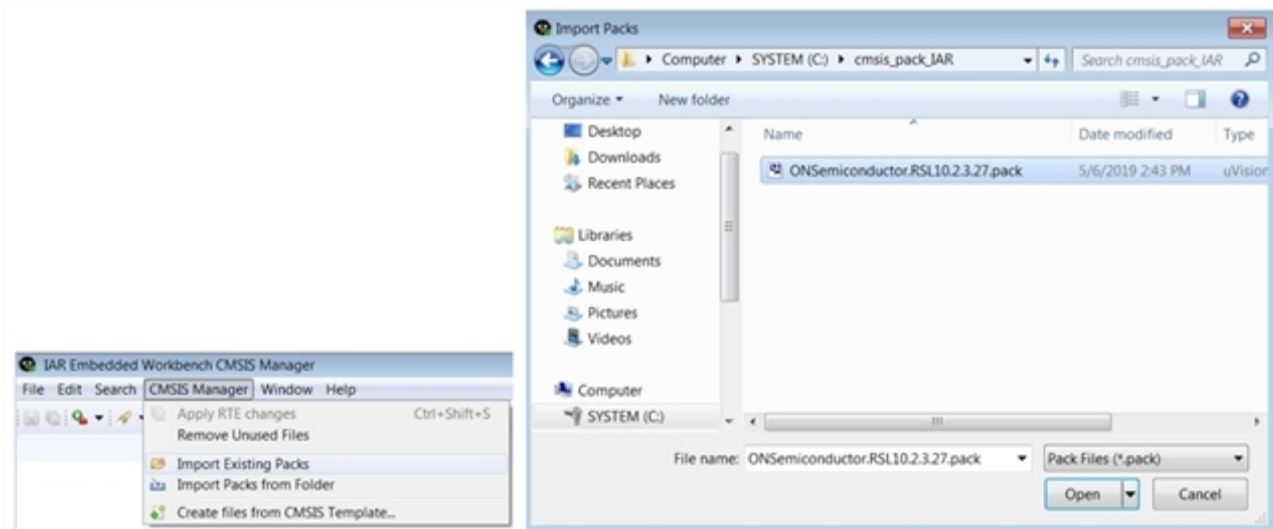

Figure 28. Installing the RSL10 CMSIS-Pack for the IAR Embedded Workbench IDE
3. Click on **CMSIS Manager > Import Existing Packs**, select your pack file *ONSemiconductor.RSL10.<version>.pack*, and click **Open** (see the figure "Installing the RSL10 CMSIS-Pack for the IAR Embedded Workbench IDE" (Figure 28)). **<version>** is the RSL10 version, such as 2.3.27.